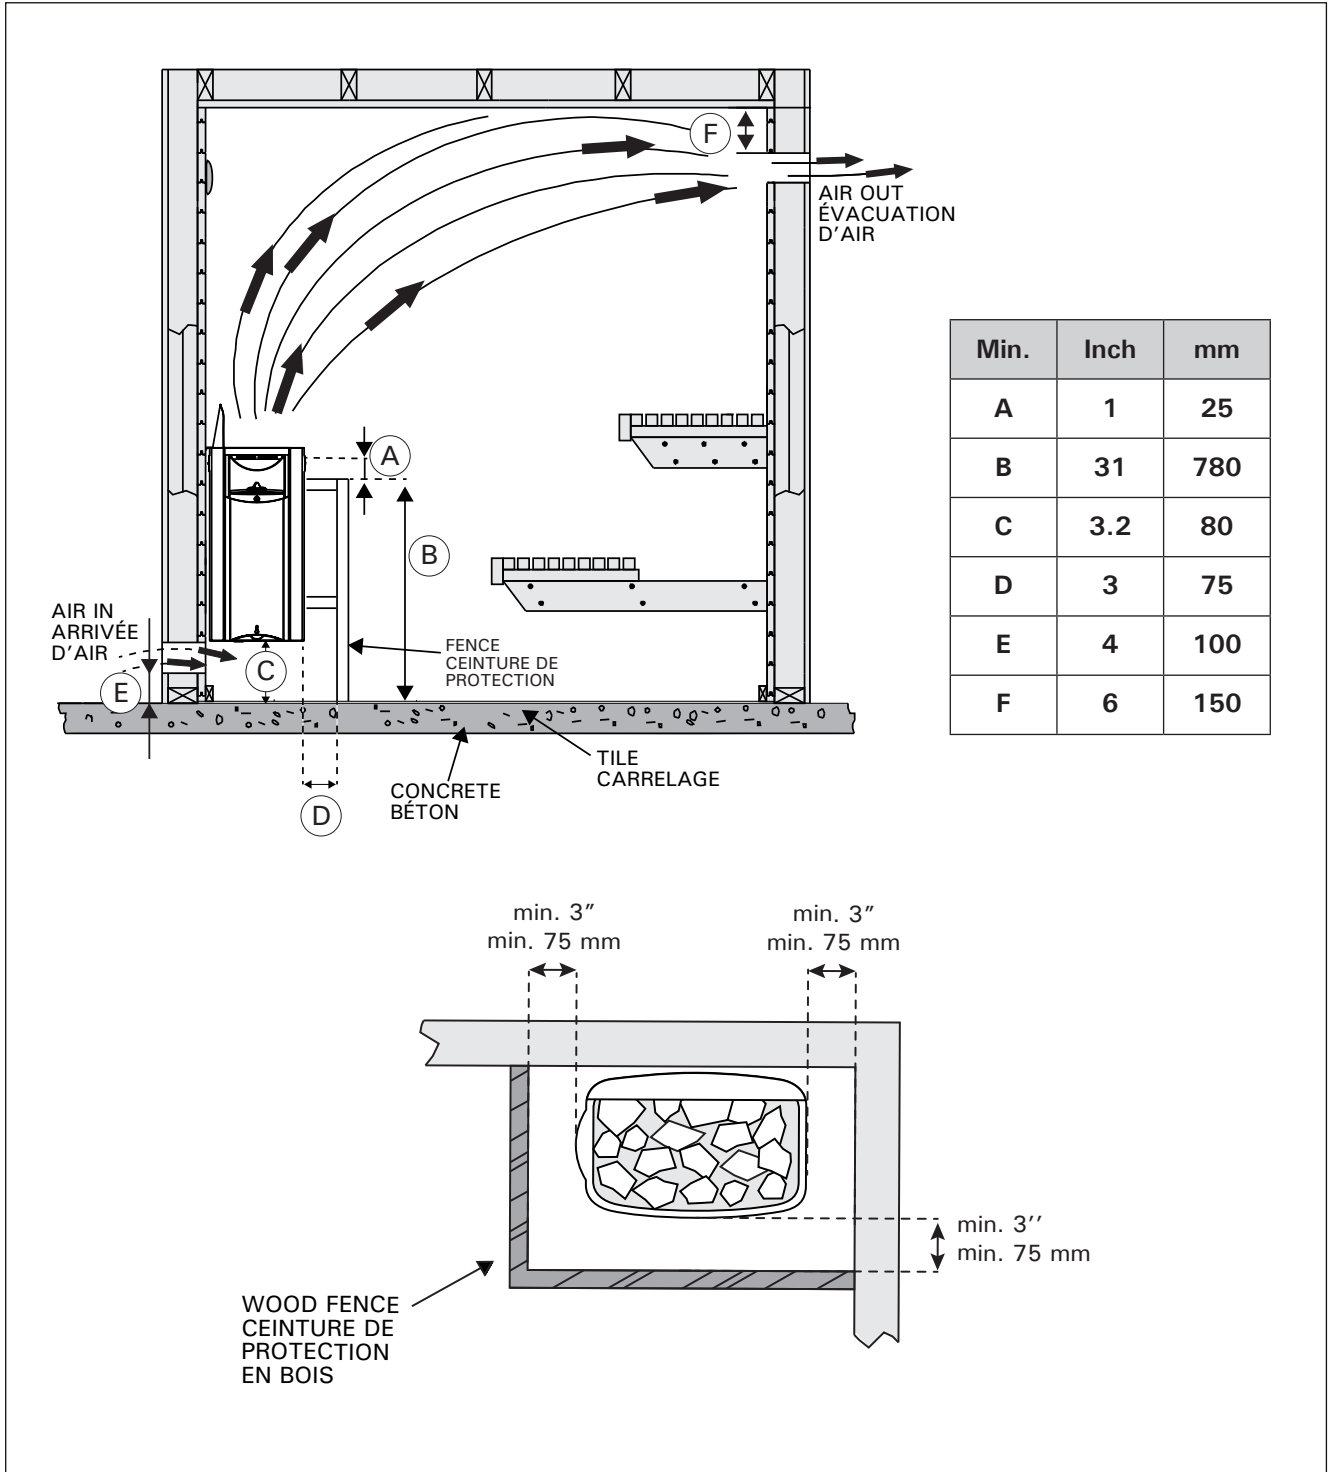

Figure 3. Ventilation of the sauna room and min. clearances from wall and fence
Should be provided by lower vent close to heater, 4" (100 mm) from floor, and upper vent on opposite wall (if possible) 6" (150 mm) from ceiling or as low as 24" (600 mm) from floor. Vents should be adjustable and should allow air to change 5 times per hour. Sauna shall be provided with intended ventilation as required per the local code authorities. See figure 3.
The minimum safety distances are described in figure 3 and 4.
It is necessary for safety and should be constructed of softwood to match sauna interior. See figures 3 and 4 for clearances from sauna heater. Fence should be attached to wall and should not be placed higher than top of heater below rock line.
1. Remove heater from carton and place in proper location in sauna room. Observe proper clearances as per figures 3 and 4. After final hook-up, electrical contractor should secure heater to its place with provided screws or bolts.